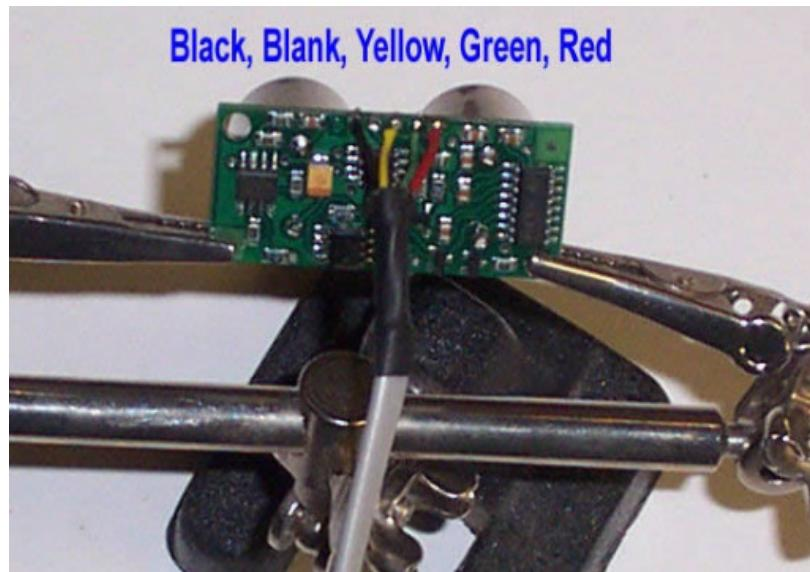

Figure 62: Devantech SRF08 Wire Arrangement
5. Slide a piece of heat shrink onto the wire and shrink it as shown in Figure 62.